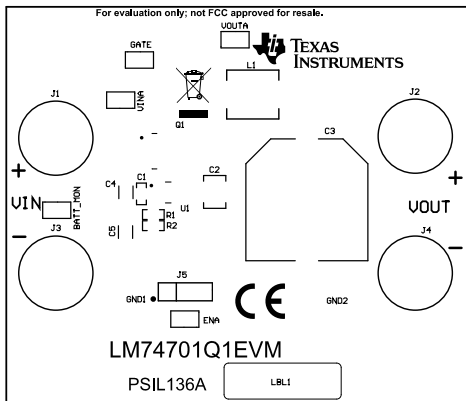
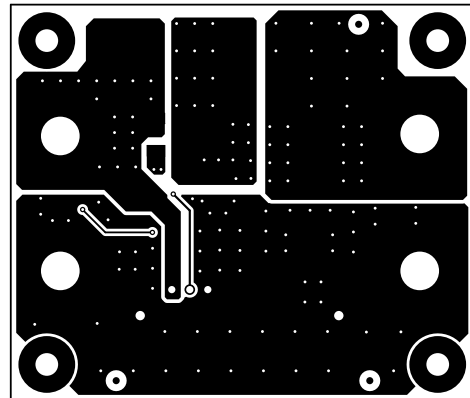

Figure 4-1. LM74701-Q1EVM Top Side Placement
Figure 4-4. LM74701-Q1EVM Bottom Layer Routing
Figure 4-1 through Figure 4-4 show component placement and layout of this EVM.
• Updated <a href="#">Figure 4-1</a> through <a href="#">Figure 4-4</a> .....	<a href="#">8</a>